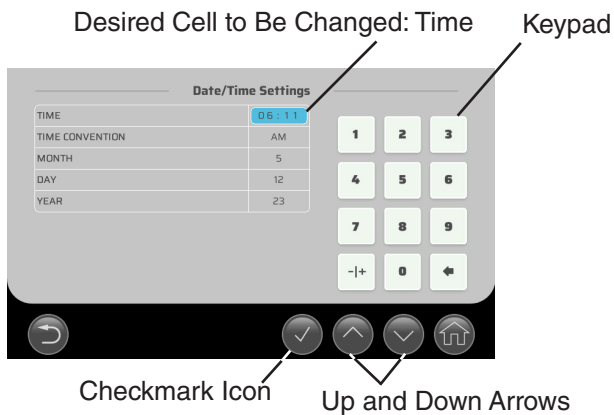

Fig. 10
- 5) Press the desired cell to be changed. See Fig. 10.